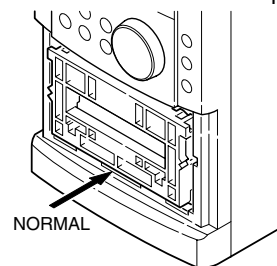

Fig.2
- Use a + tip screwdriver to turn the screw for normal azimuth adjustment so that the left and right outputs are maximized at the same phase during normal playback. See Fig.2.